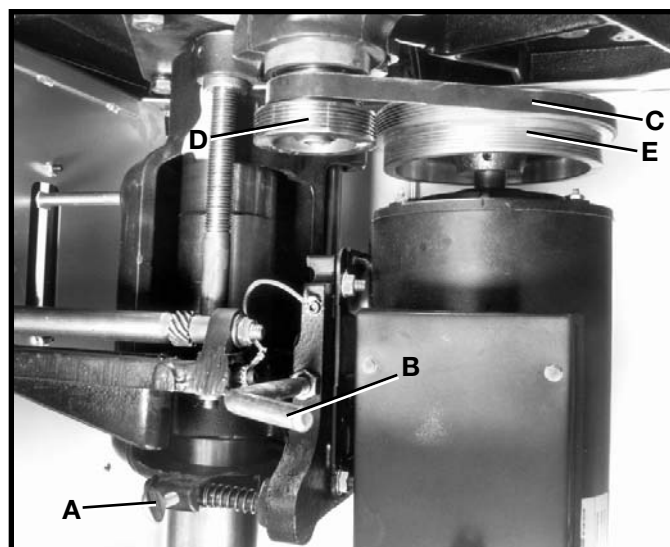

Fig. 47
2. Loosen thumb screw lock (A) Fig. 47. Release tension on belt by moving lever (B), to the left. Position belt (C), on the desired steps of the spindle pulley (D), and the motor pulley (E), and apply belt tension by moving lever (B), to the right. When desired belt tension is applied to belt, retighten thumb screw lock (A).
3. Proper belt tension is attained when there is approximately 3/32" deflection using light finger pressure (approx. 3.5 lbs.) at the center of the belt span between pulleys (D) and (E) Fig. 47. **IMPORTANT:** Pulleys (D) and (E) should always be aligned with each other to provide maximum belt performance and reduce belt wear. To check pulley alignment, refer to section "REPLACING SPINDLE CARTRIDGE."